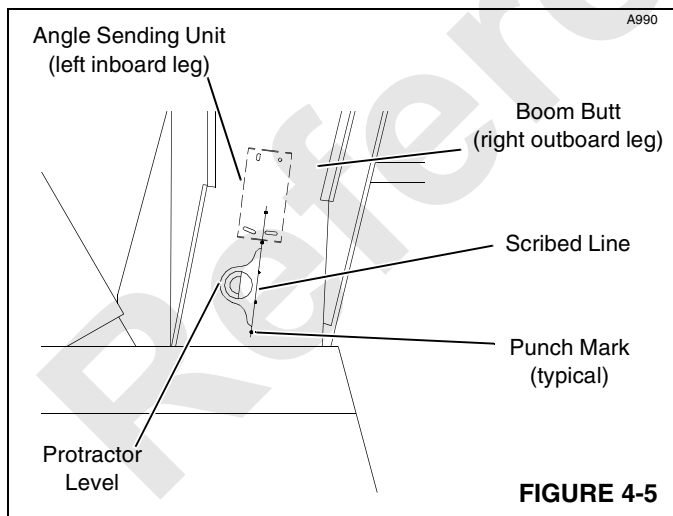

FIGURE 4-5
Perform following adjustment steps at initial installation, after installing a new sending unit or potentiometer, and at least monthly when boom is lowered to ground (Figure 4-5).
1. Locate punch marks on line through centerline of boom butt as shown in Figure 4-5. If necessary, scribe a line through punch marks.